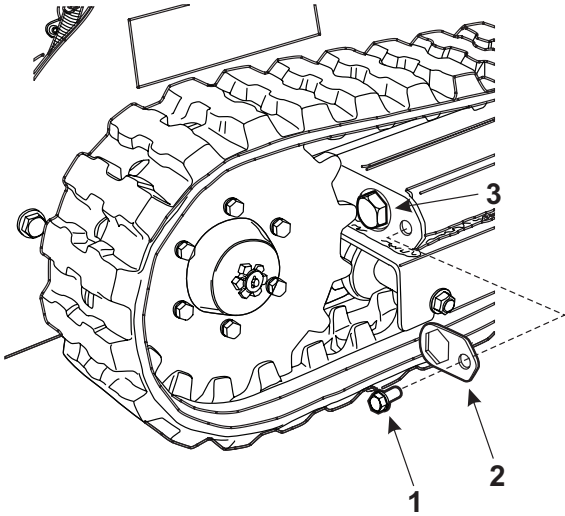
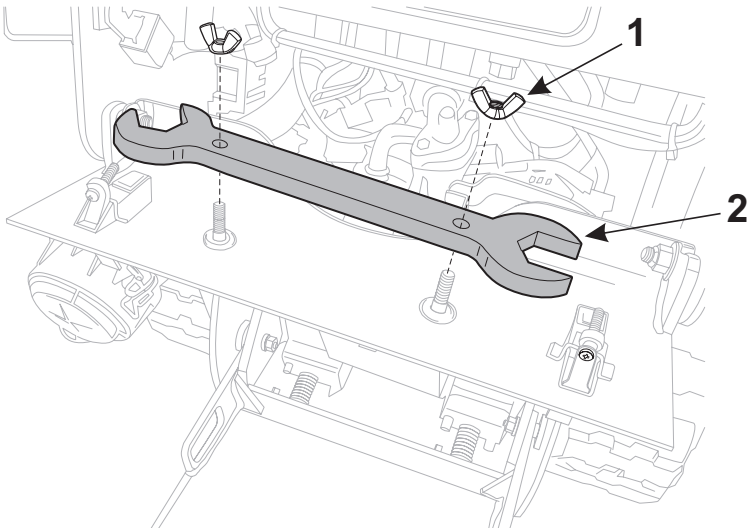

Figure 4-12 Track Adjustment Bolt Lock Plate
Figure 4-13 Track Adjustment Bolt Lock Plate
- e. Remove track tension lock plate bolt (Item 1, Figure 4-12) using a 9/16" wrench.
- f. Remove the adjustment bolt lock plate (Item 2, Figure 4-12).
- g. Adjust the track tension by rotating the tension bolt (Item 3, **Figure 4-12**) COUNTERCLOCKWISE to tighten the track and CLOCKWISE to loosen the track. Use the 1 5/8" wrench (Item 2, **Figure 4-13**) located under the removable service access cover. Remove the wing nuts (Item 1, **Figure 4-13**) securing the track adjusting wrench to the service access cover, and then remove the wrench.